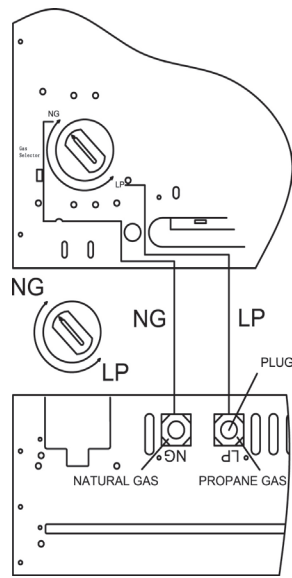

Figure 14
2. For NATURAL GAS, press knob using a flat screwdriver with a blade with thickness of a quarter and turn knob clockwise  until the knob locks into the NG position (see Figure 14). Fuel selection device must be locked in the NG position. Do not operate heater between locked positions!